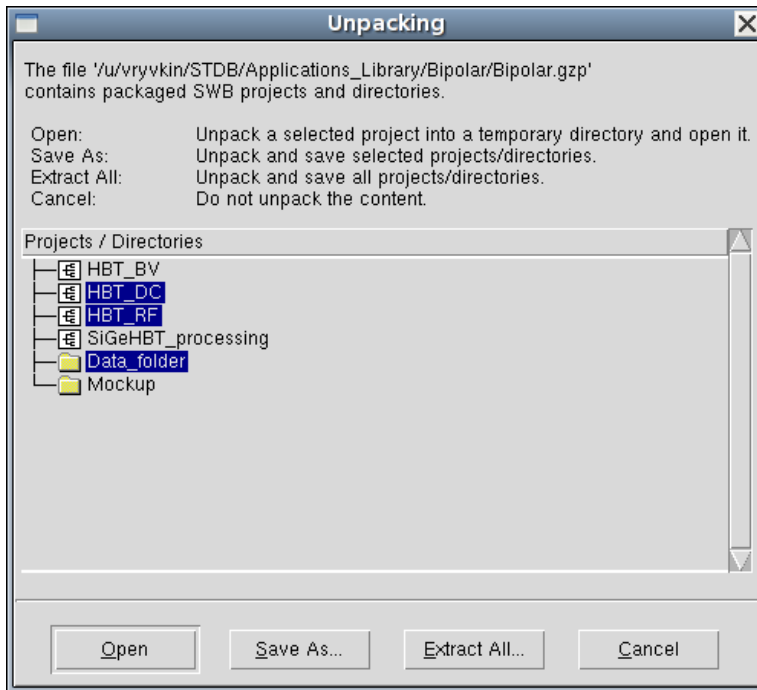

Figure 7 Unpacking dialog box
2. In the Unpacking dialog box (see Figure 7 on page 22), select one or more projects or directories.